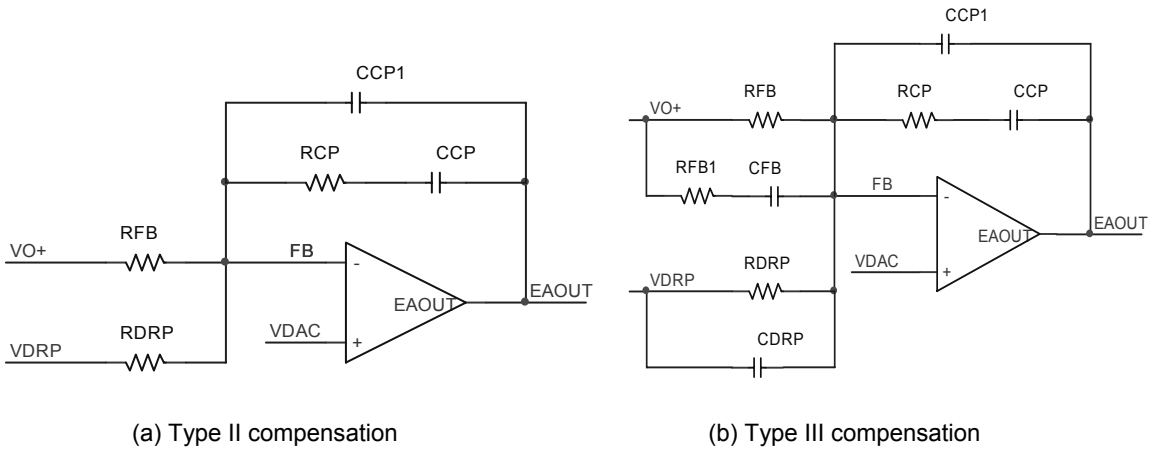

Figure 8. Voltage loop compensation network
Resistors R_{FB} and R_{DRP} are chosen according to Equations (13) and (14), and the selection of compensation types depends on the output capacitors used in the converter. For the applications using Electrolytic, Polymer or AL-Polymer capacitors and running at lower frequency, type II compensation shown in Figure 8(a) is usually enough. While for the applications using ceramic capacitors and running at higher frequency, type III compensation shown in Figure 8(b) is preferred.
For applications where AVP is not required, the compensation is the same as for the regular voltage mode control. For converter using Polymer, AL-Polymer, and ceramic capacitors, which have much higher ESR zero frequency, type III compensation is required as shown in Figure 8(b) with R_{DRP} and C_{DRP} removed.